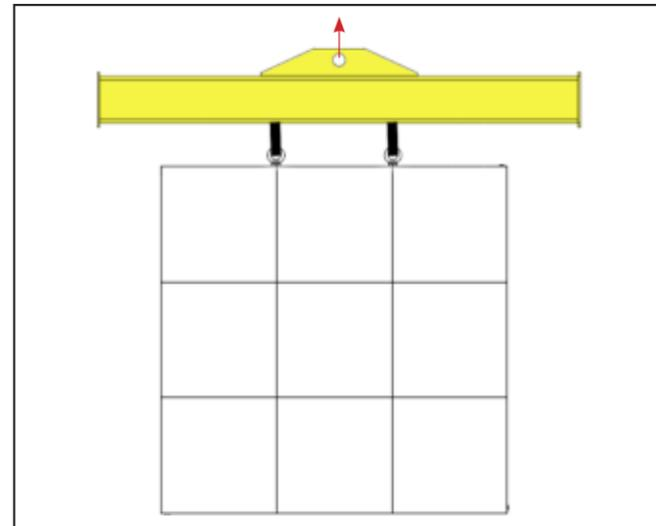

Figure 2: Lift with Spreader Beam
- Use a spreader beam with sufficient weight capacity. Refer to **Figure 2** and **Section Sizes & Weight Estimates (p.1)**.